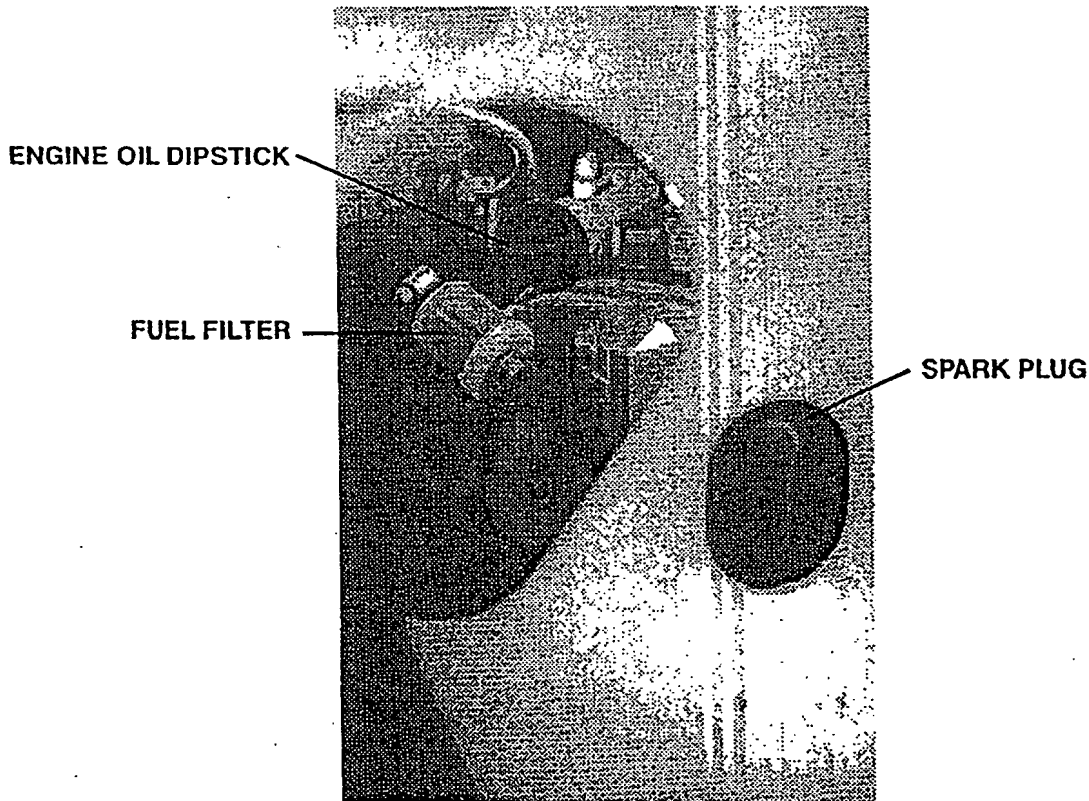

FIGURE 26
2. Remove dipstick on the right hand side of the engine, **Figure 26**, visibly check the level. Top up with recommended oil; see the chart on Page 24 if required.